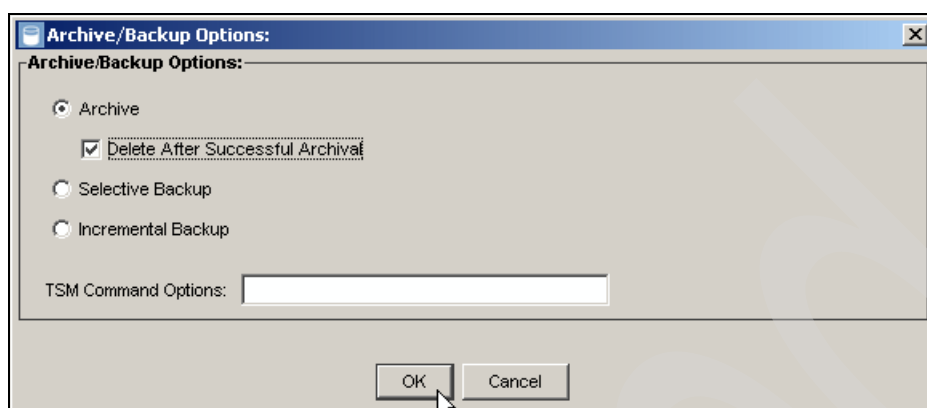

Figure 2-60 Tivoli Storage Manager configuration panel
8. In Figure 2-60, click **Archive** and also **Delete After Successful Archive**. This way, Tivoli Storage Manager deletes the files from storage when Tivoli Storage Manager is sure that it has a good copy of the files. Click **OK**.